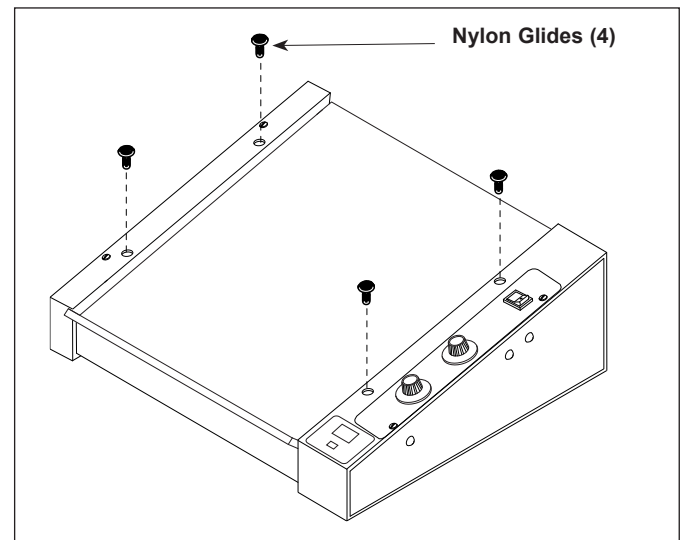

Figure 6A. HDC-20/30A/50A ONLY
**HDC-20/30A/50A ONLY:** Using a small screwdriver, pry the four glides up and out of the unit (Figure 6A). Push the new glides into the unit.